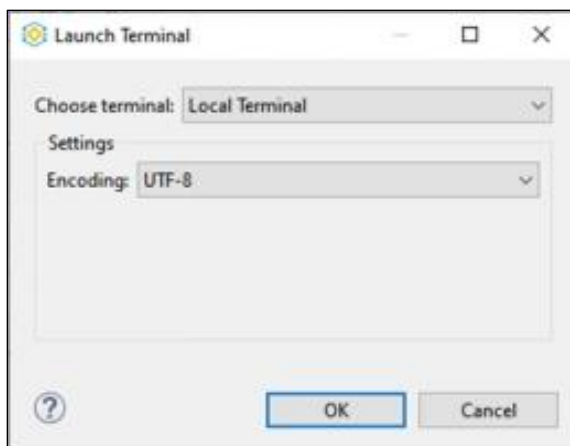

Figure C.2. Propel terminal selection window
9. The Propel terminal window appears as shown in Figure C.2.